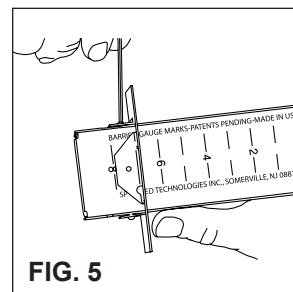

FIG. 5
2. Install a wall plate around pathway making sure that set screw flanges are facing towards the end of the device. Use gauge marks located on lid of pathway to adjust plate to thickness of wall (See Fig 5). This will center pathway within the wall. When properly adjusted, tighten set screws to lock plate onto pathway.